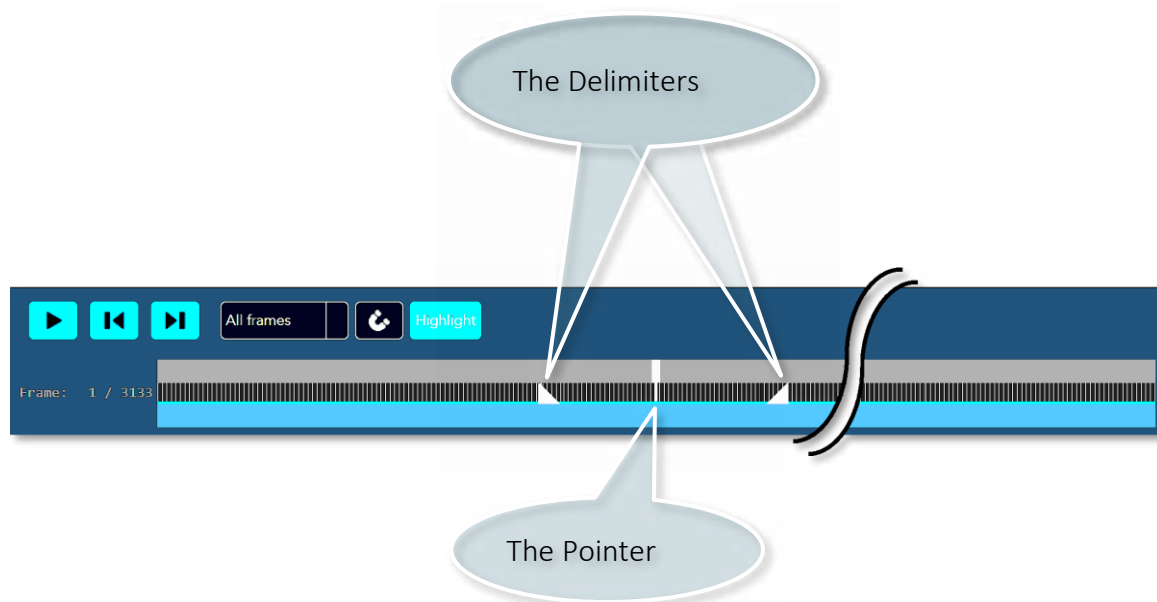

Figure 93 – Timeline toolbar – Pointer and Delimiters
- A **Single Frame** mode – where a single **Frame**, selected by the **Pointer** (see Figure 93 below), is displayed individually on the screen.